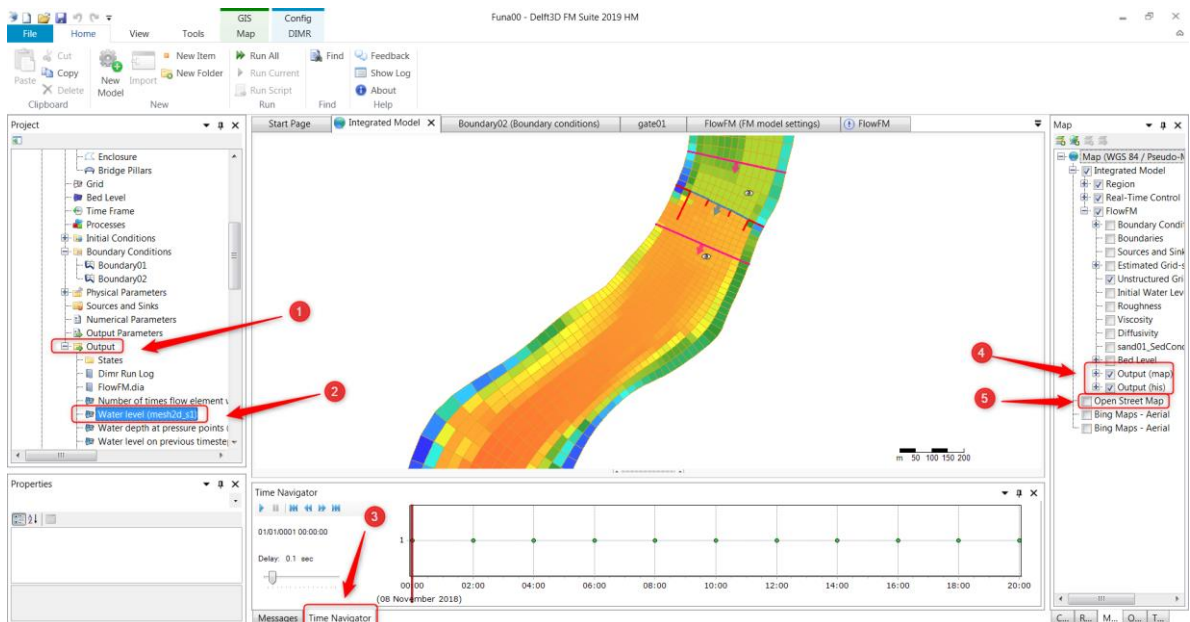

Figure 3.1 Exploring the model results.
- Go to the “Map” at the right side of Delta-shell window to explore the output of the map file and the history file as shown in Figure 3.1.